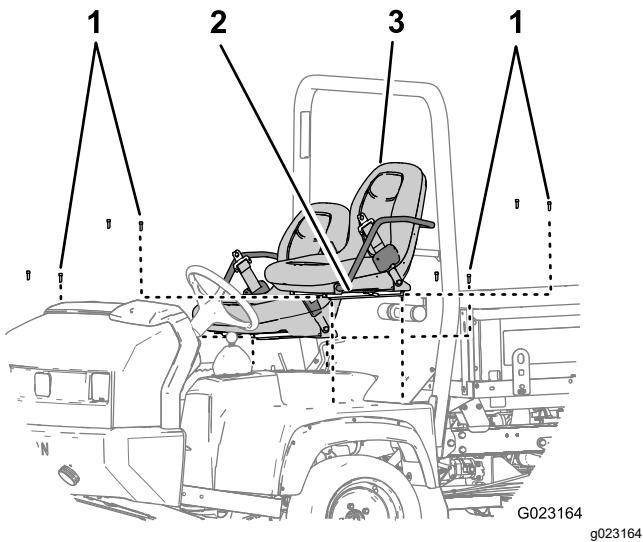

Figure 8
- 4. Remove the 8 socket-head bolts that secure the seat rails of the seat to the chassis and remove the seats (Figure 8).